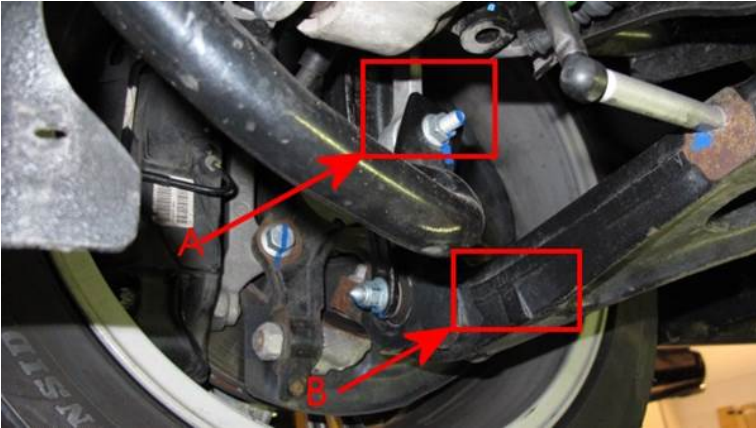

Figure 1
- Referring to Figure 1 (Point A) due to the revised design of the anti-roll bar, the ends will not contact the front faces of the front lower wishbones (Point B)